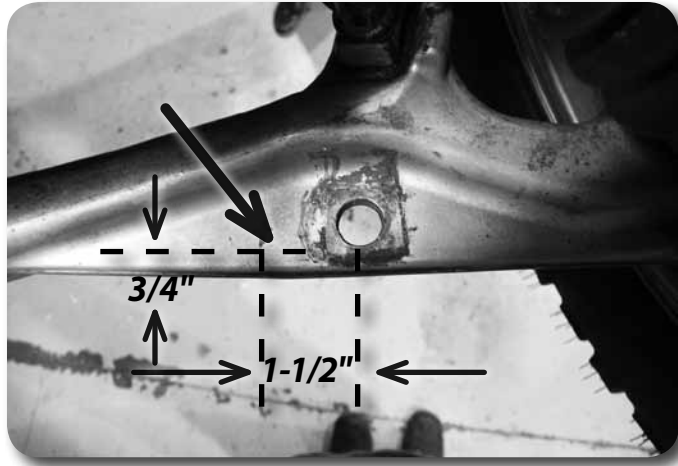

Figure 33
66. Locate the original sway bar link mounting hole on the lower control arm. Measure inward from the center on the hole 1-1/2" (toward the frame mount) and mark. Measure in from the back edge of the control near the first mark $\frac{3}{4}$ " and mark. Where the two marks cross drill a $\frac{5}{8}$ " hole **Figure 33**.